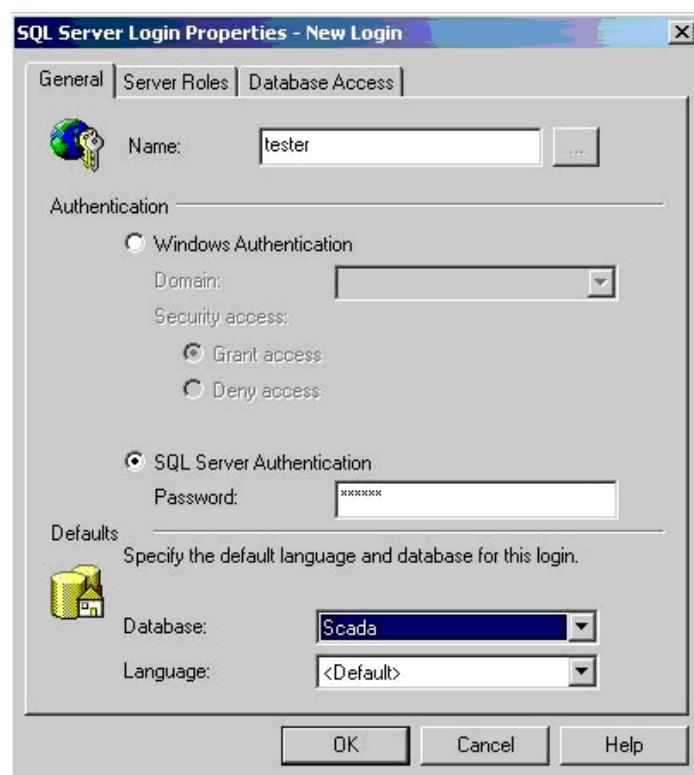

Figure 32: Defining a new SQL user options
2. Define options for the new SQL user, see Figure 32.